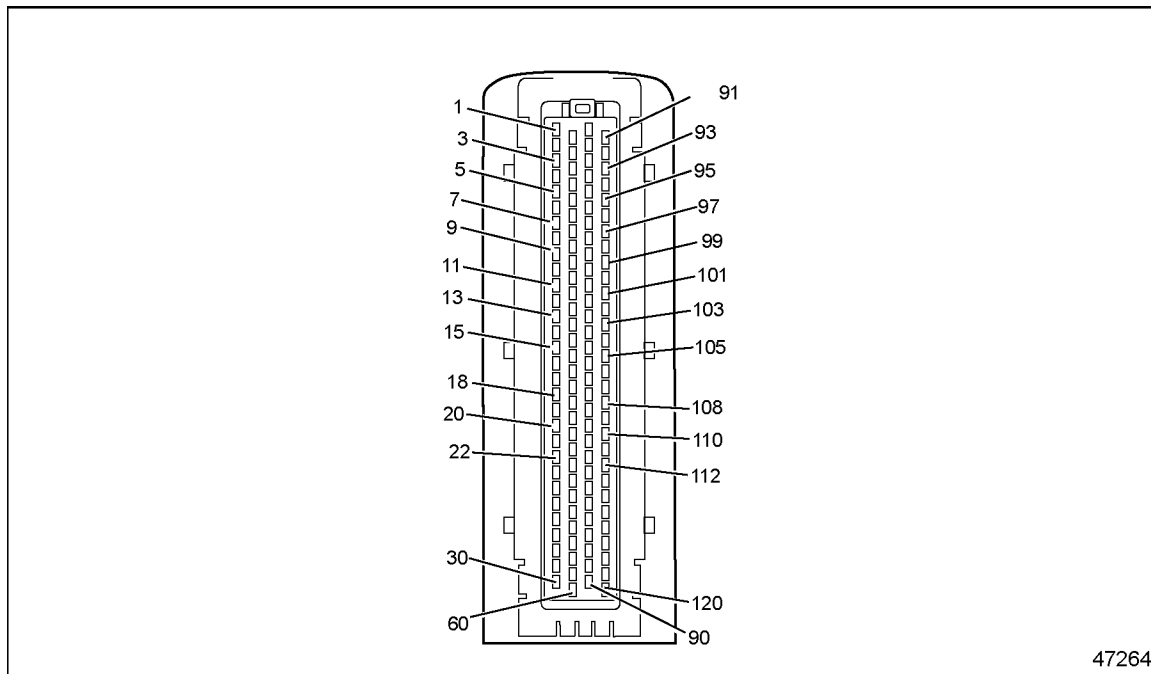

Figure 118-1 120-pin MCM Connector
- [b] If the resistance is less than 3 Ω , repair the short to power between battery positive and pin 11 of the MCM 120-pin connector. See Figure 118-1. Refer to section 118.1.1.1.